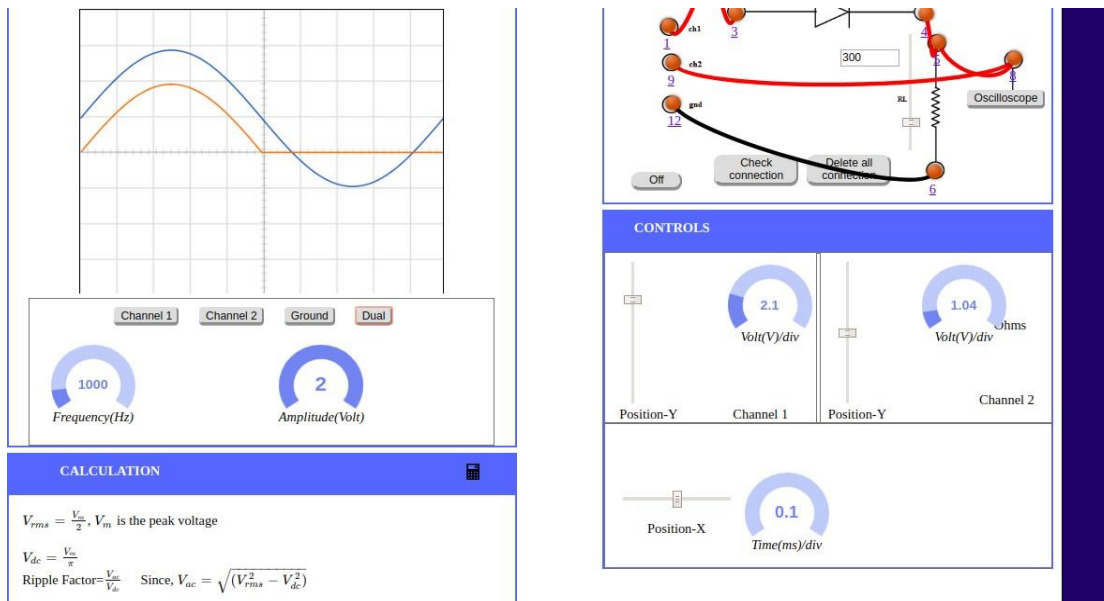

Figure 6
Step 3: In figure 6, Click on dual.
Here as, channel 2 is used to set the volt/div---> volt/div is 1 volt and amplitude is set to 2 volt, output signal in the oscilloscope screen is upto 1 division. And time/div is 0.1ms/div. In the figure 6 shows the both signal.